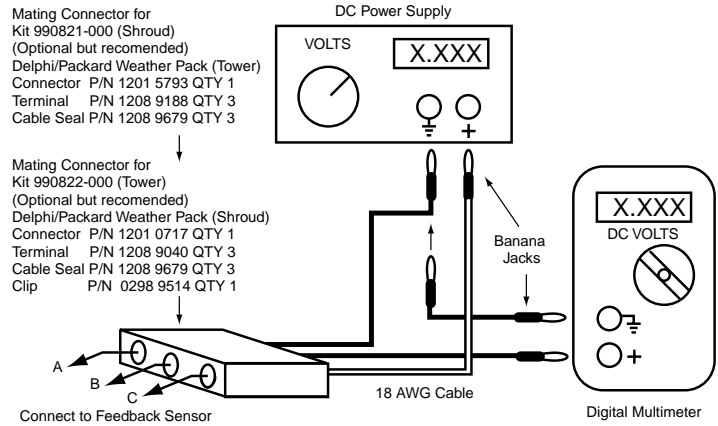

Figure 1-2
5. Short 3-wire cable; Delphi/Packard termination on one end, banana jack terminations on opposite end. (See Figure 1-2)
- a) Assuming the pump is destroyed and in neutral, connect the equipment as shown in Figure 1-2, below.